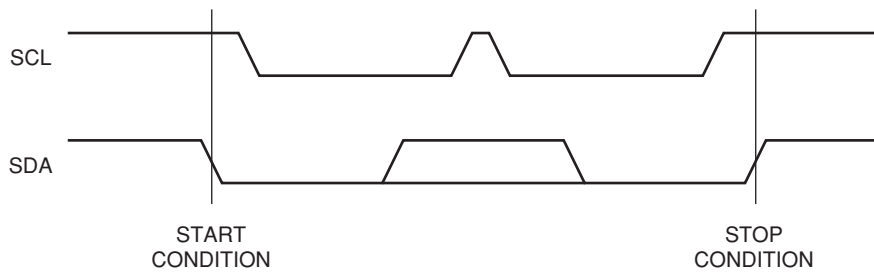

Figure 5. START/STOP Conditions
- (1) Data transfer may be initiated only when the bus is not busy.
- (2) During a data transfer, the data line must remain stable whenever the clock line is high. Any changes in the data line while the clock line is high will be interpreted as a START or STOP condition (Figure 5).
After a successful data transfer, each receiving device is required to generate an acknowledge. The acknowledging device pulls down the SDA line during the ninth clock cycle, signaling that it received the 8 bits of data. The SDA line remains stable LOW during the HIGH period of the acknowledge related clock pulse (Figure 5).